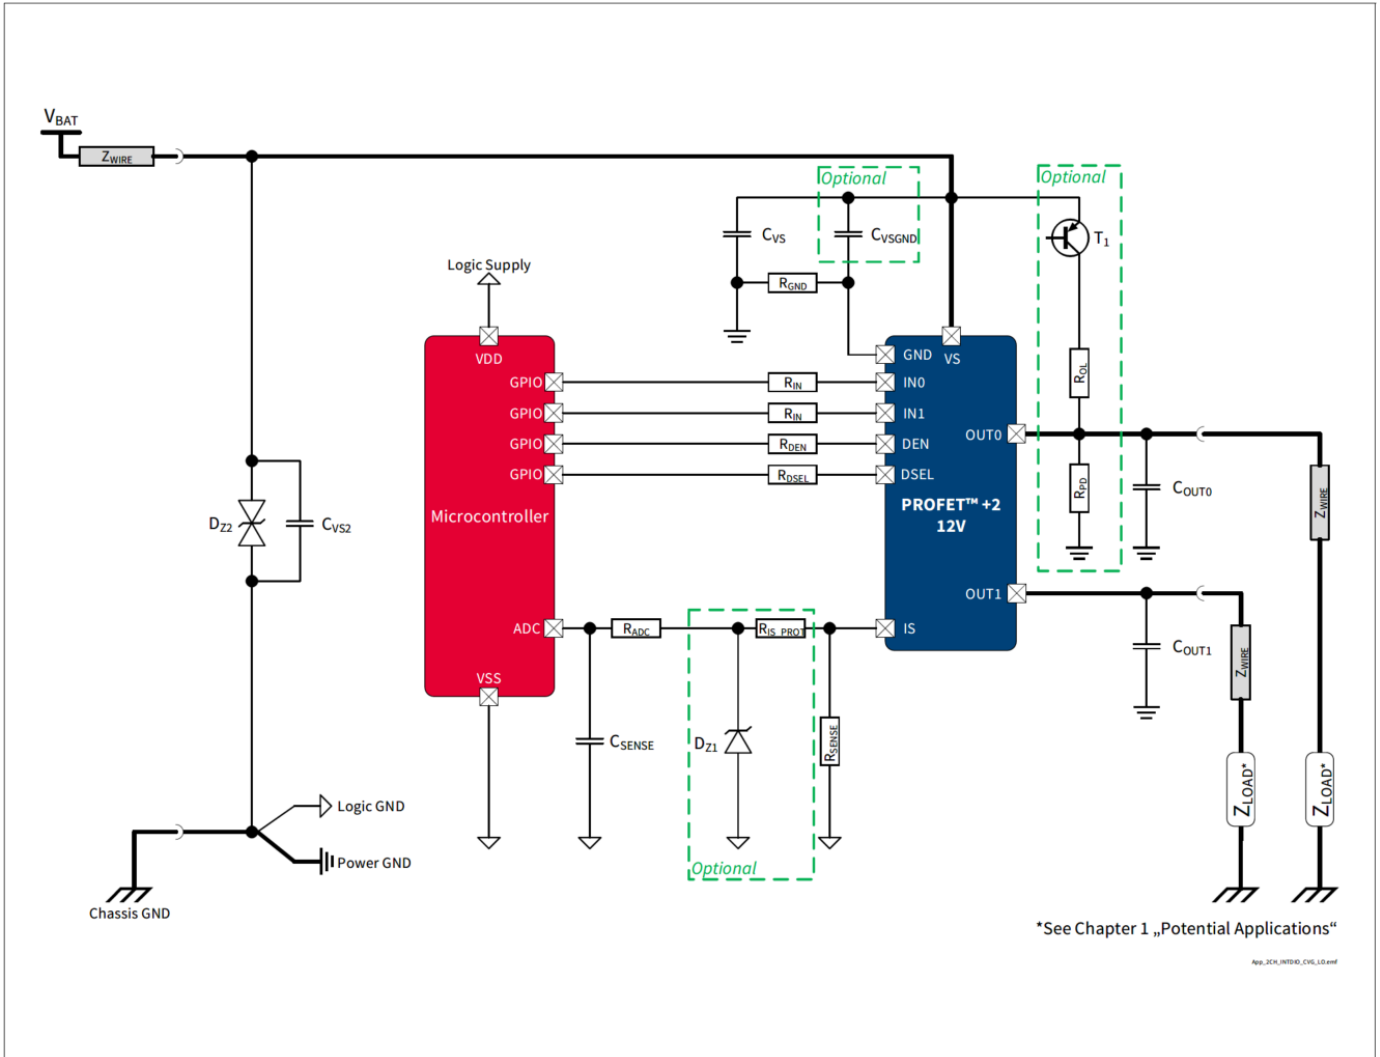

Figure 43 BTS7080-2EPA Application Diagram
1.05, 2019-10-15	P_8.7.7.1, P_8.7.7.7, P_8.7.7.8 updated (added in Note or Test Condition: link to Figure 25) P_7.5.7.4, P_7.5.7.5 updated (added in Note or Test Condition: DEN = “low”; link to Figure 19) P_7.5.7.12 updated (added in Note or Test Condition: see Figure 21 ; deleted unnecessary space in Symbol: $ dV_{OUT} / dt $ → $ dV_{OUT} / dt $) P_8.7.7.6 updated (added in Note or Test Condition: see Figure 26) P_9.7.7.1 updated (added in Note or Test Condition: see Figure 34) P_9.7.7.5 updated (Min./Typ./Max.: -45%/1800/+45% → -28.0%/1750/+28.0%) P_9.7.7.6 updated (Min./Typ./Max.: -40%/1800/+40% → -25.5%/1750/+25.5%) P_9.7.7.8 updated (Min./Typ./Max.: -35%/1800/+35% → -23.5%/1750/+23.5%) P_9.7.7.12 updated (Min./Typ./Max.: -26%/1800/+26% → -19.0%/1750/+19.0%) P_9.7.7.15 updated (Min./Typ./Max.: -11%/1800/+11% → -9.8%/1805/+9.8%) P_9.7.7.17 updated (Min./Typ./Max.: -6%/1800/+6% → -6.0%/1805/+6.0%) P_9.7.7.19 updated (Min./Typ./Max.: -5%/1800/+5% → -4.5%/1805/+4.5%) P_7.5.7.11 updated (added in Note or Test Condition: see Figure 19) Figure 1, Figure 43 updated Chapter 1 updated (or LED equivalent → or equivalent electronic loads (e.g. LED modules)) P_4.3.0.7 added Table 24 updated Chapter 5.1 updated (added: see Chapter 10 for the complete application setup overview)